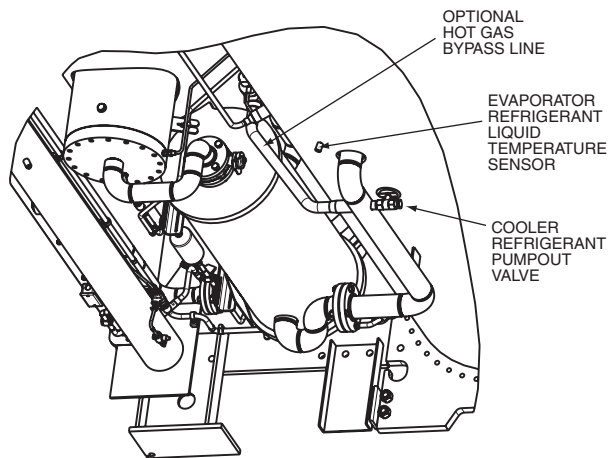

Fig. 13 — Evaporator Refrigerant Liquid Temperature Sensor on Bottom of Cooler
- a. Evaporator refrigerant liquid temperature sensor. See Fig. 13.